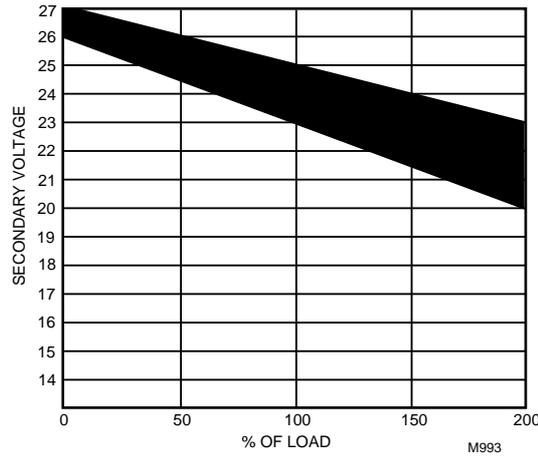

Fig. 11. NEMA class 2 transformer voltage output limits.
This means that four volts are going to be lost between the transformer and the device; therefore, to assure the device receives at least 20 volts, the transformer must output more than 24 volts. Because all transformer output voltage levels depend on the size of the connected load, a larger transformer outputs a higher voltage than a smaller one for a given load. Fig. 11 shows this voltage load dependence.
In the preceding I x R loss example, even though the device load is only 37 VA, a standard 40 VA transformer is not sufficient due to the line loss. From Fig. 11, a 40 VA transformer is just under 100 percent loaded (for the 37 VA device) and, therefore, has a secondary voltage of 22.9 volts. (Use the lower edge of the shaded zone in Fig. 11 that represents the worst case conditions.) When the I x R loss of four volts is subtracted, only 18.9 volts reaches the device, which is not enough voltage for proper operation.
1. Use a larger transformer; for example, if an 80 VA model is used, see Fig. 11, an output of 24.4 volts minus the four volt line loss supplies 20.4V to the device. Although acceptable, the four-volt line-loss in this example is higher than recommended. See the following **IMPORTANT**.
To meet the National Electrical Manufacturers Association (NEMA) standards, a transformer must stay within the NEMA limits. The chart in Fig. 11 shows the required limits at various loads.